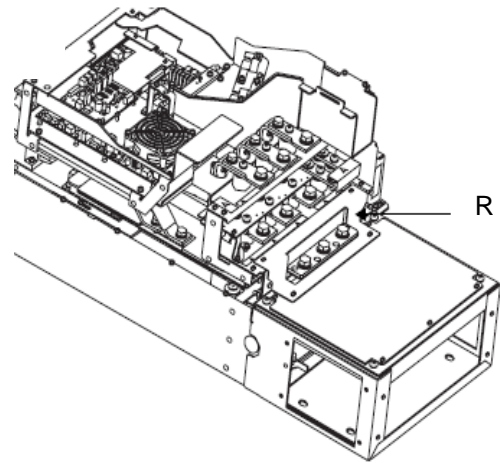

Figure 15
Step7: Install the EMC plate 2 (R) as shown in figure 15. This step is only for conduit box kit NEM1109Z.